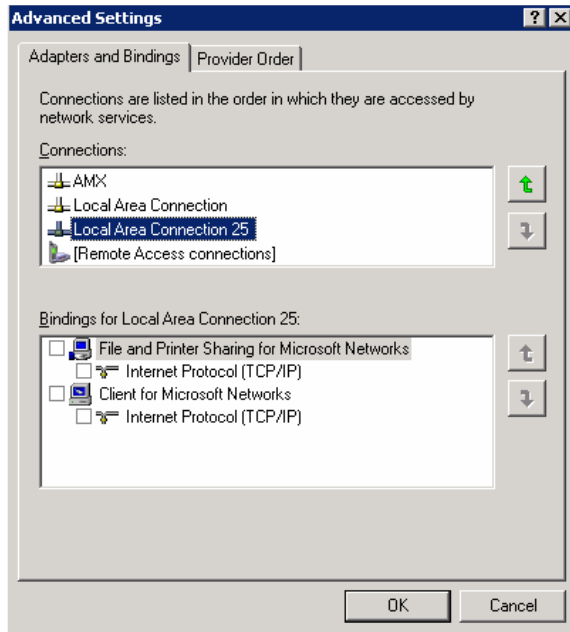

FIG. 98 Bindings for Local area list detail
- In the lower *Bindings for Local Area Connection* field, unselect ALL bindings by clicking on the checkboxes by each binding to remove the checks from each box (FIG. 98).